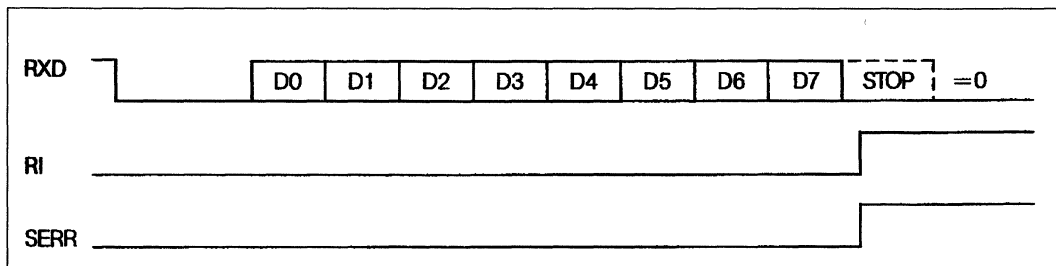

Figure 31 : SERR = 1 signals an error in the format of the received bit.
- SERR = 1 indicates that a data format error has been detected. All the bits of a same character are sampled on the 7th, 8th and 9th RECEPTION clock cycles. A majority vote determines the logical state of the bit received. A character terminates with one or more stop bits (level 1). In figure 31, the stop bit is missing (level) and bit SERR is set to 1 at the same time as bit RI.